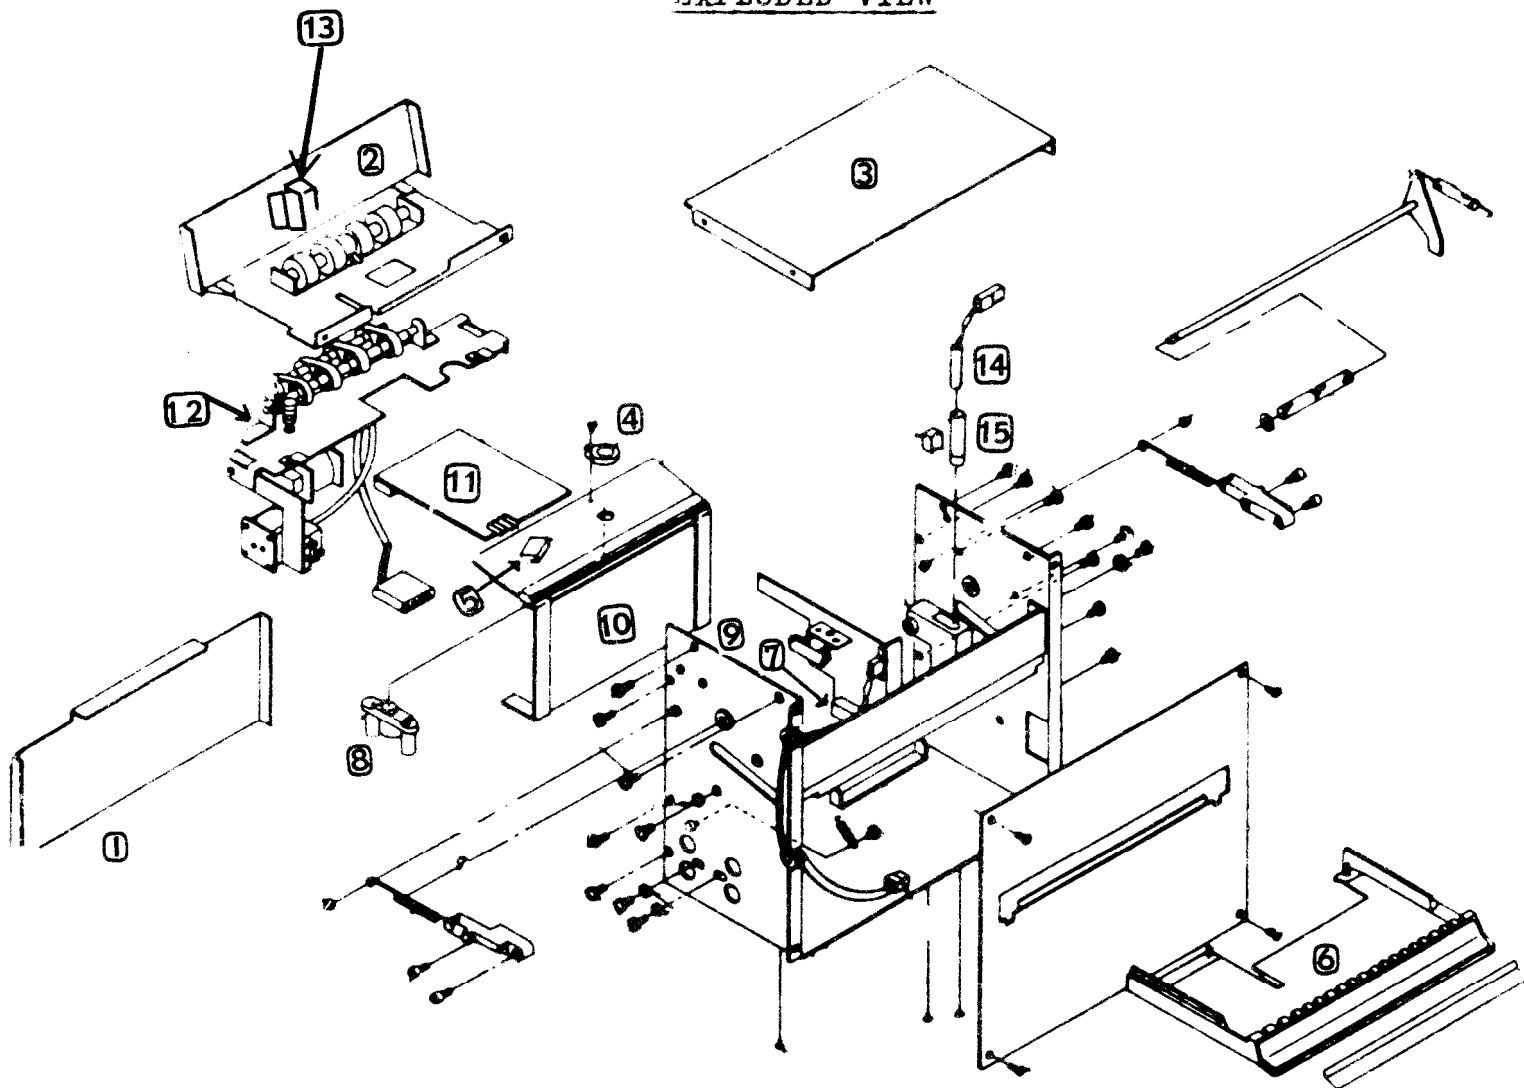

FIGURE 3
Note: If stacker is not used, remove acceptor brake plate, (item 1, figure 3).
2. Remove acceptor top plate (item 3, figure 3).
3. Remove top roller plate (item 2, figure 3).
4. Using a soft cloth, cotton swab or pipe cleaner, clean grid lamp filter (item 4, figure 3), secondary sensor (item 5, figure 3).
5. Clean tray insert (item 6, figure 3) top and bottom with soft cloth. Reassemble acceptor.
- A. Tray clear switch (item 7, figure 3) actuated by note.
- a. Grid lamp (item 8, figure 3) to high intensity (5VDC)
- B. Trigger switch (item 9, figure 3) actuated.
- a. Power to one side of accept relay (item 10, figure 3)
- a. Detection systems view the note and determine its validity. (Primary, item 8, 11, 14, 15, figure 3), (Secondary, item 5, 11, figure 3).
- b. Signals from the detection system are inputted to the amplifier module (item 11, figure 3) for processing.
- a. Power to motor rail and solenoid (item 12, figure 3). Motor and solenoid energized, locking the tray and beginning collection cycle.
- b. Aft clear switch (item 13, figure 3) actuated by note.
- c. Note clears solar cell (item 4, figure 3).
- d. Tray clear switch (item 7, figure 3) returns to normal.
- a. Vend relay (item 10, figure 3) energizes, closing its contacts.